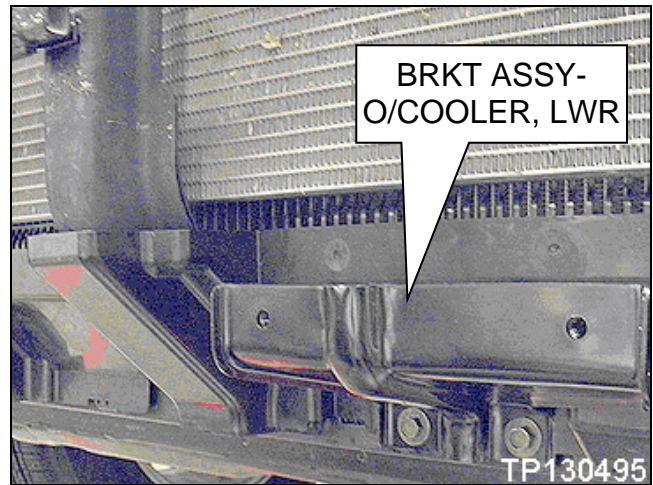

Figure 16
- Figure 14 shows the pre-existing weld nuts, and Figure 16 (page 10) shows the BRKT ASSY-O/COOLER, LWR mounted.